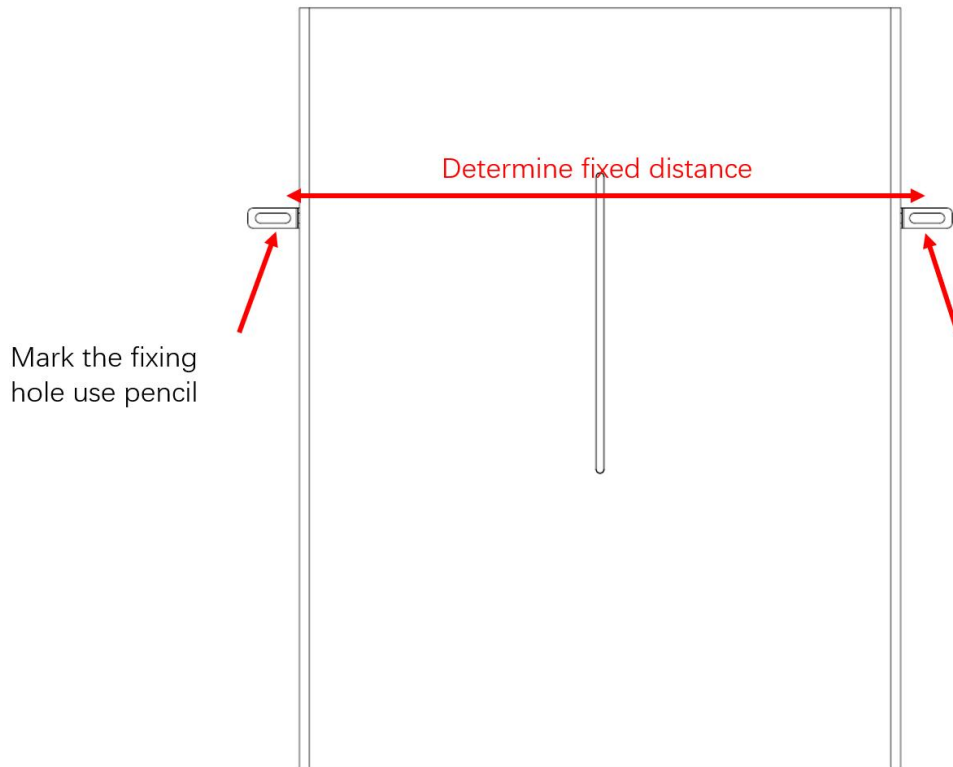

Figure 5-5
d) Stand the battery on the side of the wall, mark the location of the fixing hole, Choose the recommend drill head (as shown in below picture) to drill 2 holes on the wall, 100-110mm deep, as shown in Figure 5-2 and Figure 5-5.